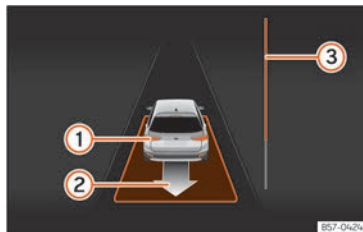

Fig. 174 On the instrument panel display: exit a parallel parking space.
The progress bar »» Fig. 174 ③ indicates the distance to cover »» page 244.